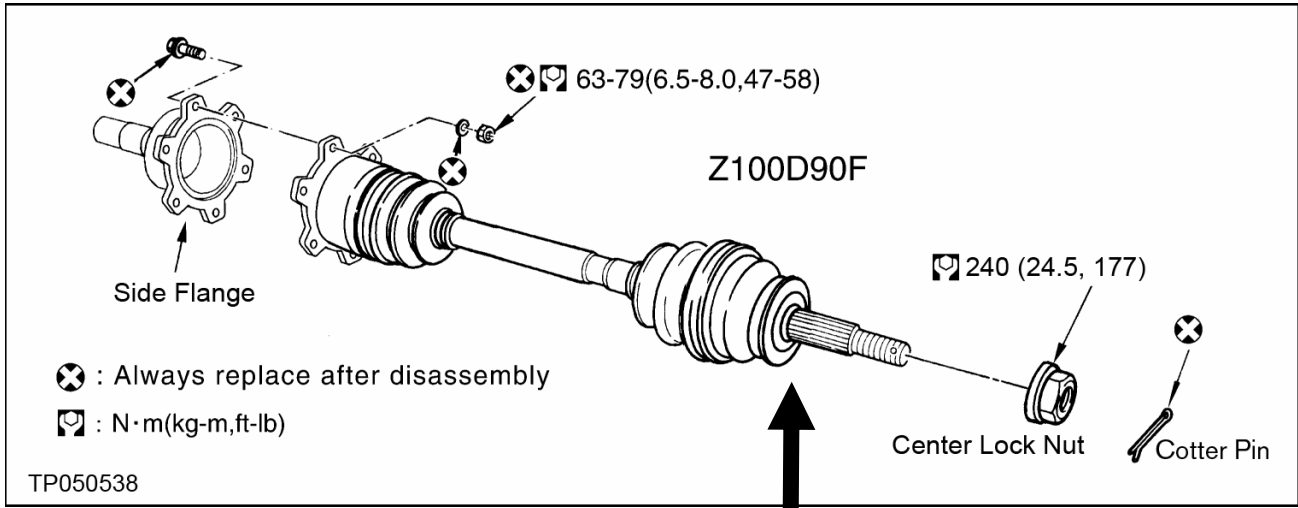

Figure 2a
3. Clean the flange surface of the outer joint of the driveshaft and apply a moderate coat of Molykote M77 grease (see Figure 2a and 2b).